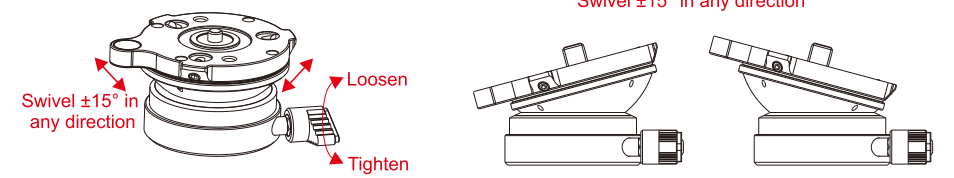

Fig 3
① To prevent a ball head from unscrewing from the Leveling Base, use an Allen key to adjust the Ball Head Locking Screw so that it presses against the base of the Ball Head. Do not use excessive force. Use all 3 Ball Head Locking Screws for best results. Remember to loosen the Ball Head Locking Screw before removing the ball head.
② As shown in Fig. 3, loosen the Leveling Control Locking Knob and adjust the Leveling Ball to the desired angle (use the bubble level on the platform for precise alignment), tighten the Leveling Control Locking Knob.